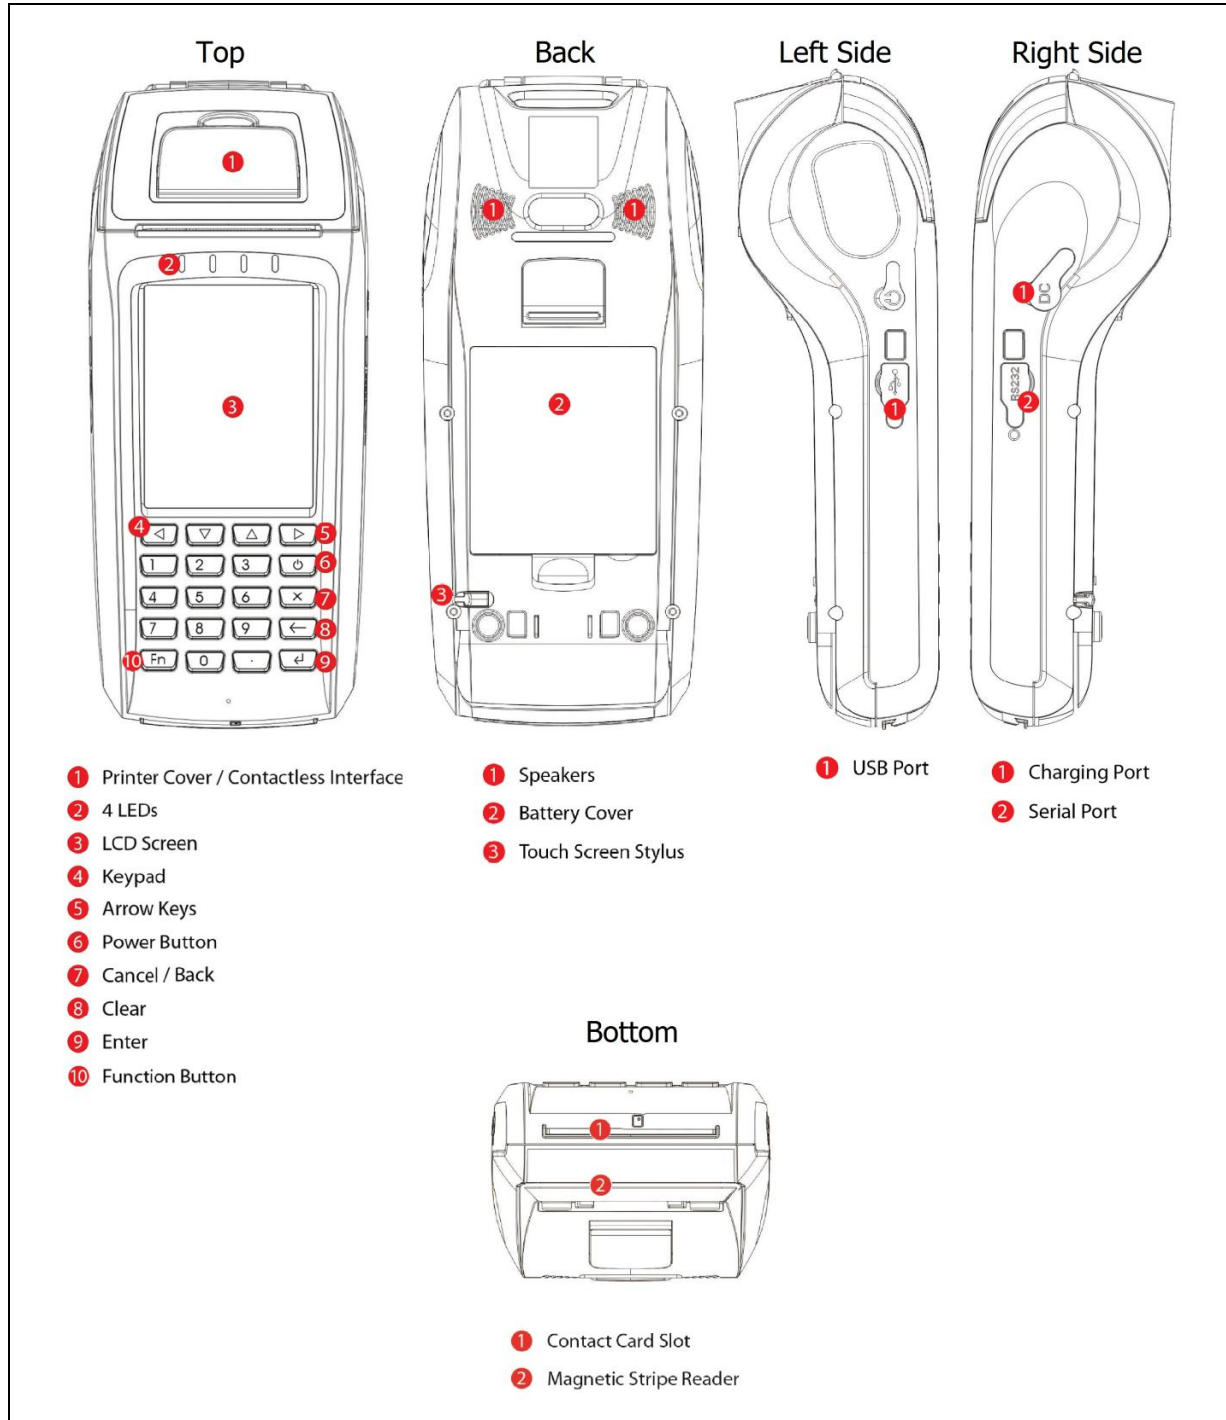

Figure 1: ACR890 – Parts Description
1. To turn on the device, press and hold the power button until the LCD display turns on and the ACS logo appears on the screen. See **Figure 1** for the location of the power button.